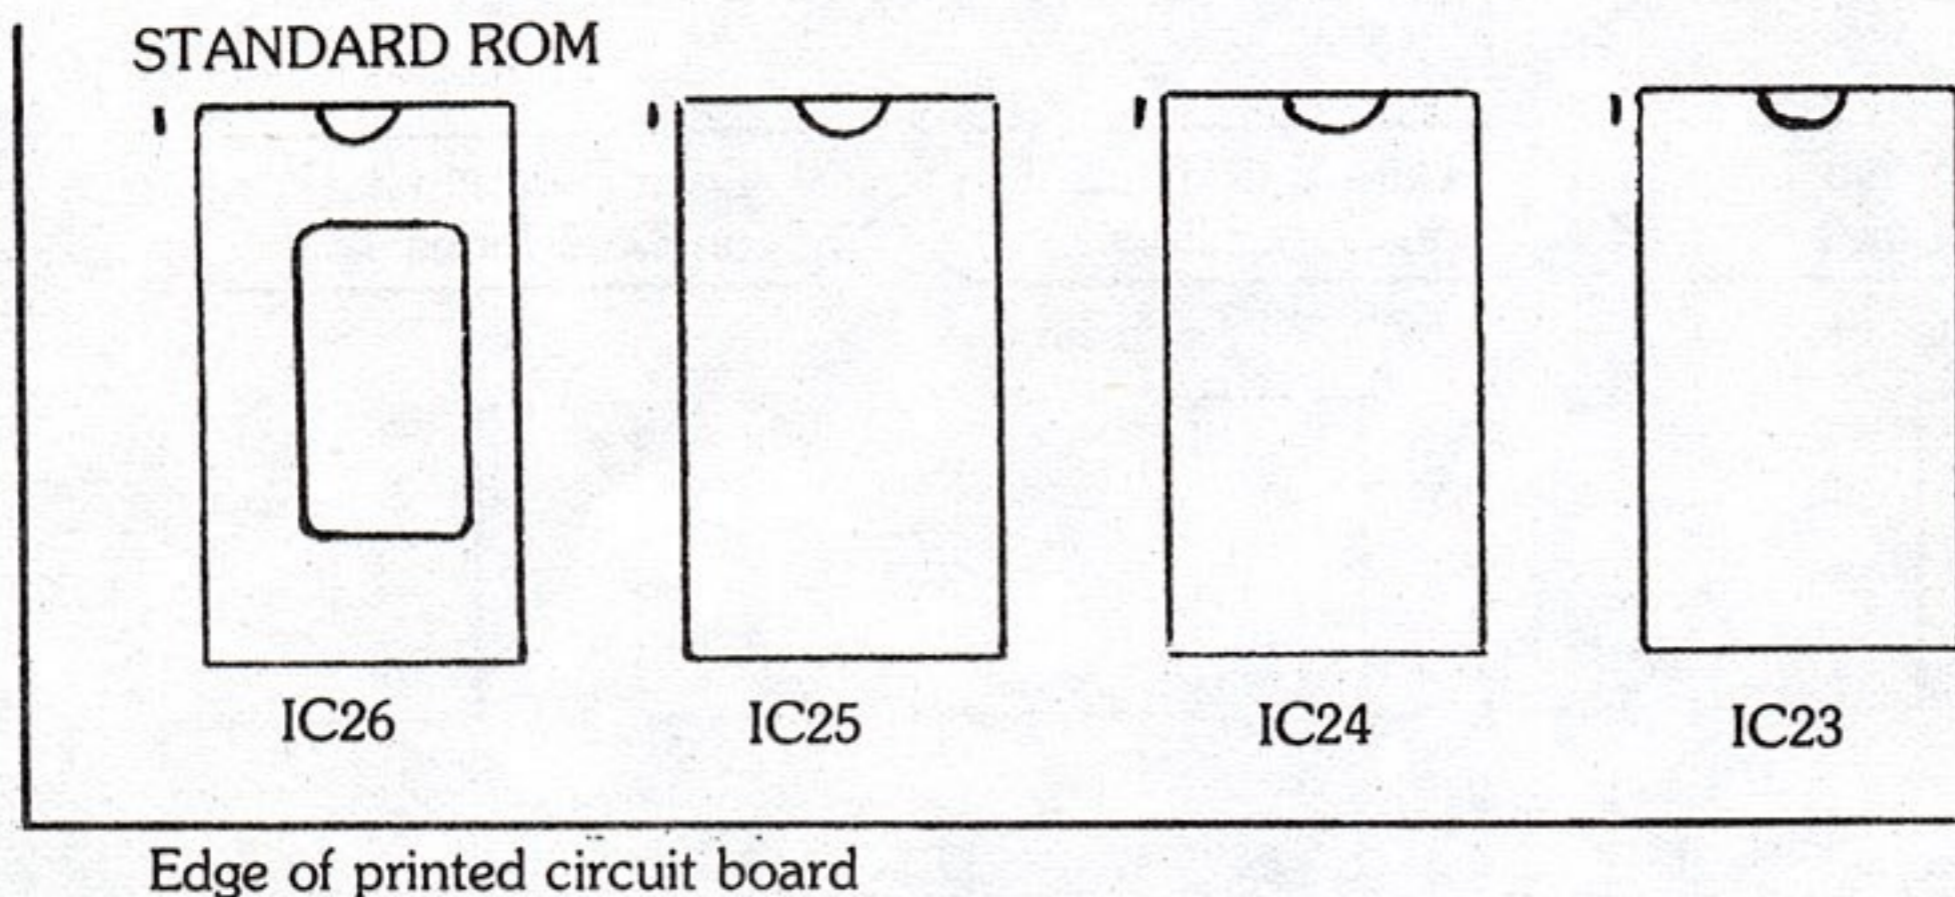

FIGURE 7: EPROM ORIENTATION
- iv) The EPROM must be a type 2732 and must be inserted in the correct socket, the correct way round - as shown in figure 7.